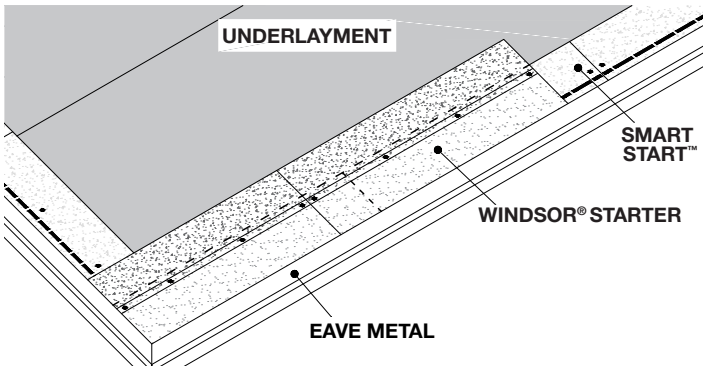

Figure 45 - Application of Windsor® Starter Shingles over Smart Start® at the Eave Edge of Roof
Fasten with four (4) nails placed in-between the nailing lines: one (1) nail 1" (25 mm) from each end and the other two (2) evenly spaced on the same line as the end fasteners. (See Figure 45)